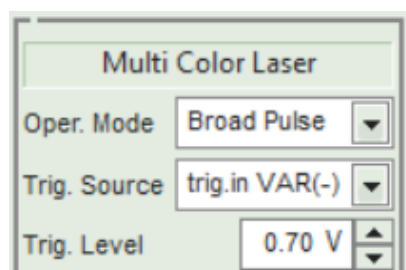

Figure 17: Additional control elements for external triggering in both narrow and broad pulsed mode
- The option **trig.in VAR(-)** will trigger upon the falling edge of an electrical pulse, while **trig.in VAR(+)** does the same on the rising edge of such a signal. Both of these options will also spawn an additional spin edit box called **Trig. Level**, where the threshold of the trigger signal can be set in V between -1 V to +1 V, see Fig. 17.